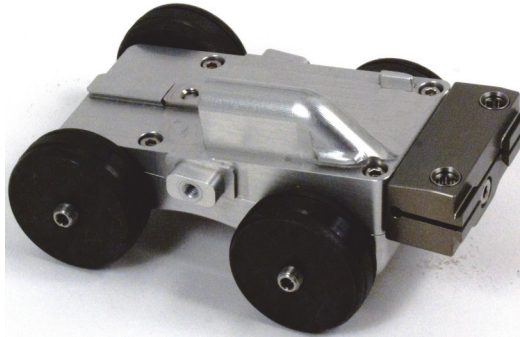

Figure 2-28 Magnetic wheels to hold the mouse scanner on ferromagnetic surface
9. Install the magnetic wheels using the hexagonal key or the supplied universal tool to secure it in place (see Figure 2-28 on page 58).